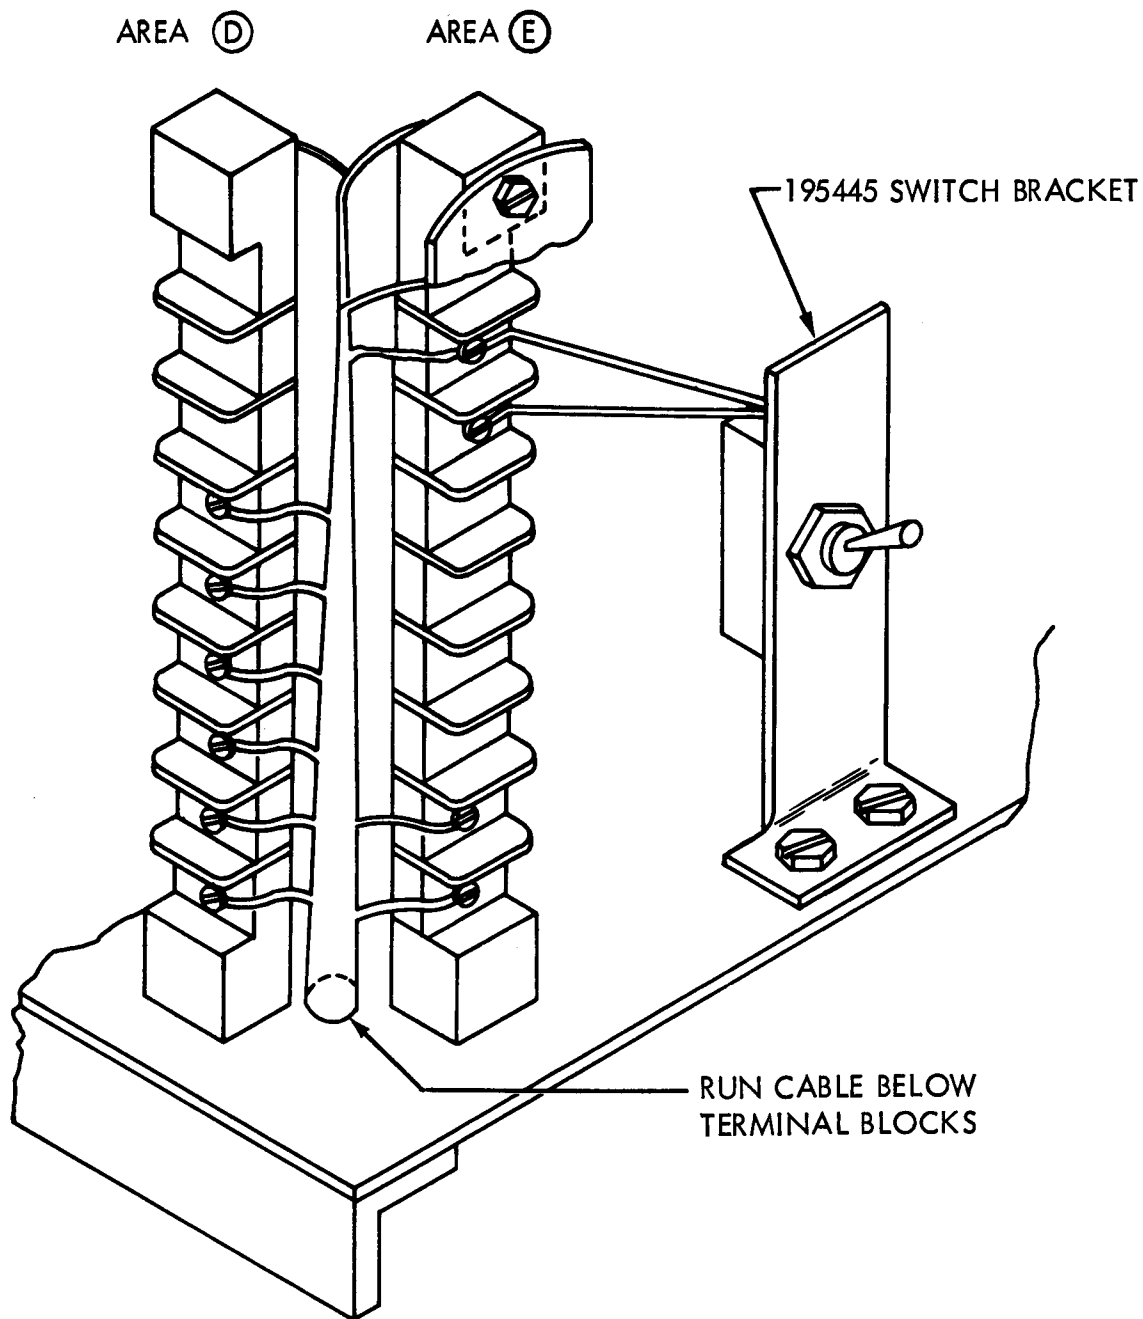

FIGURE 1 CABLE ROUTING FOR 195443 MODIFICATION KIT
1. Follow steps 2-12b(1)(a) 1 through (4).
10. Fasten terminal blocks removed in (6) to new bracket using 157195 posts in place of 151335 posts. Insulators should be mounted with the number one at the bottom. See Figure 1.
Routing of cable must be changed to take most direct route to go below and between the two terminal blocks. (See Figure 1.)